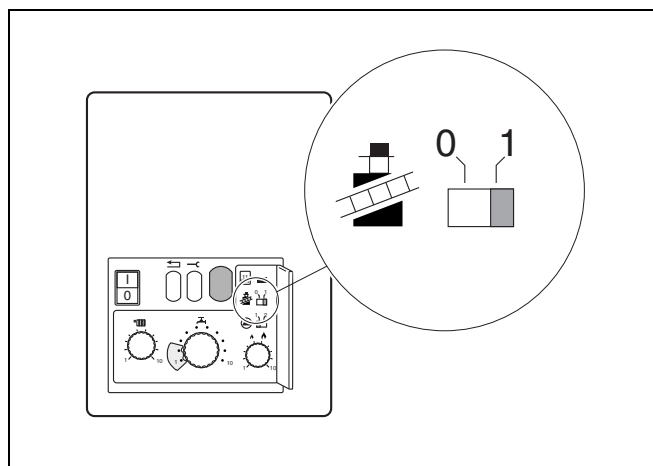

fig. 34 Chimney sweeper switch
- Move the chimney sweeper switch (fig. 34) to position "1". On type 800 – 60 the full capacity is achieved after approx. one minute. Therefore measurements should be carried within one minute of boiler operation.